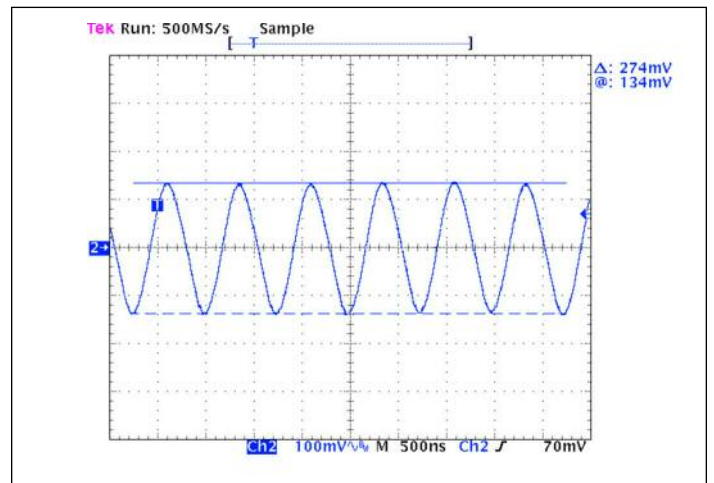

Figure 16 — Output ripple full load 10µF bypass capacitance. Vf = 48 Vdc
- $V_f$  = PRM output voltage, the Factorized Bus (see Figure 16)
Where  $V_{fd}$  is the desired factorized bus and  $V_{fs}$  is the set factorized bus. A low voltage source can be applied to the SC port to margin the load voltage in proportion to the SC reference voltage. An external capacitor can be added to the SC port as shown in Figure 16 to control the output voltage slew rate for soft start.